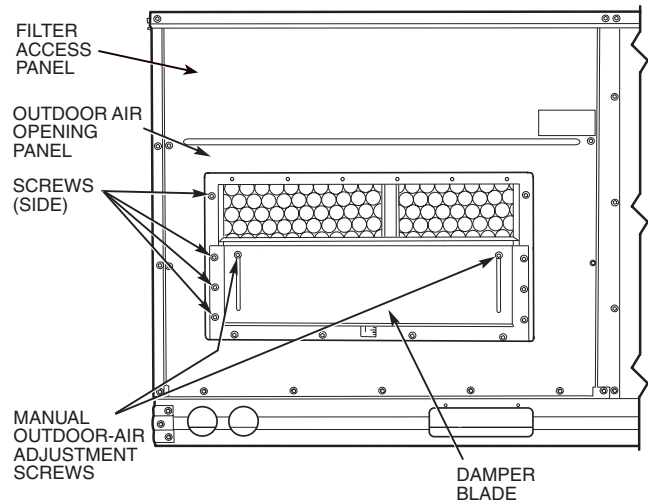
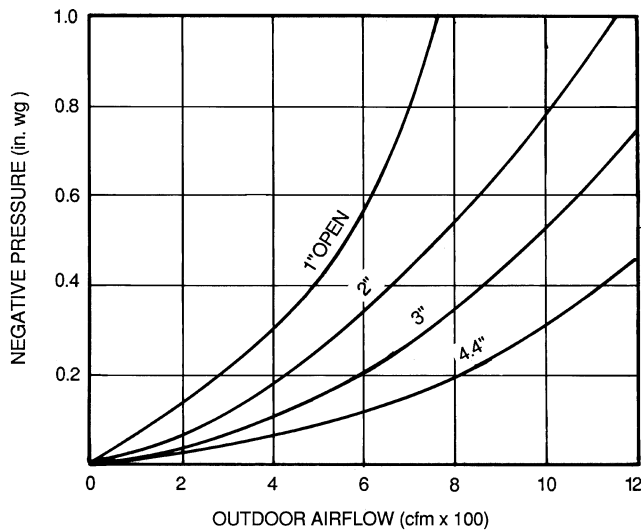

Fig. 14 — Damper Panel with Manual Outdoor-Air Damper Installed
Fig. 17 — Outdoor Air Damper Position Setting
2. Remove filter access panel by raising panel and swinging panel outward. Panel is now disengaged from track and can be removed. No tools are required to remove the filter access panel. Remove outdoor-air opening panel. Save panels and screws. See Fig. 14.
8. Adjust minimum position setting of the damper blade by adjusting the manual outdoor-air adjustment screws on the front of the damper blade. See Fig. 14. Slide blade vertically until it is in the appropriate position determined by Fig. 17. Tighten screws.